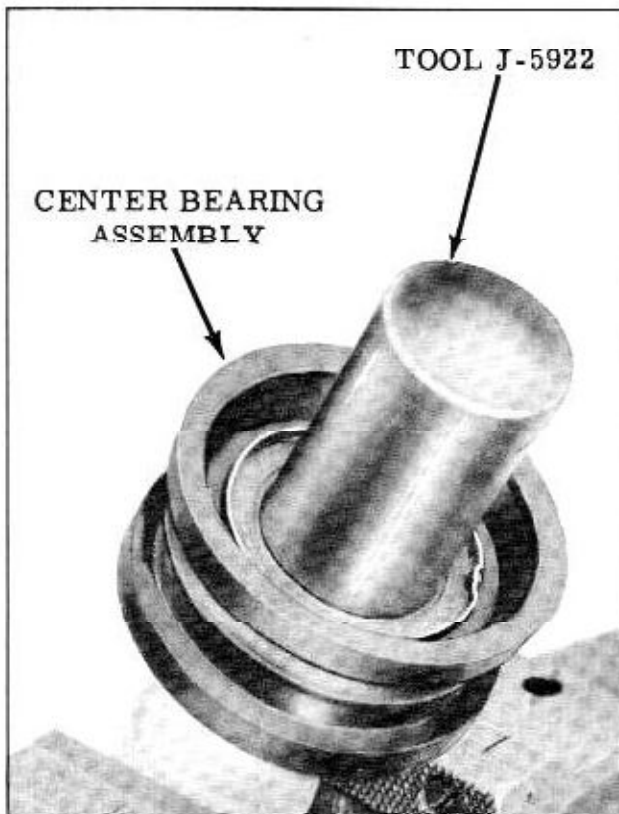

Fig. 6-36 Installing Center Bearing
1. If a new center bearing is to be installed, drive on shaft with Tool J-5922 until seated. (Fig. 6-36)